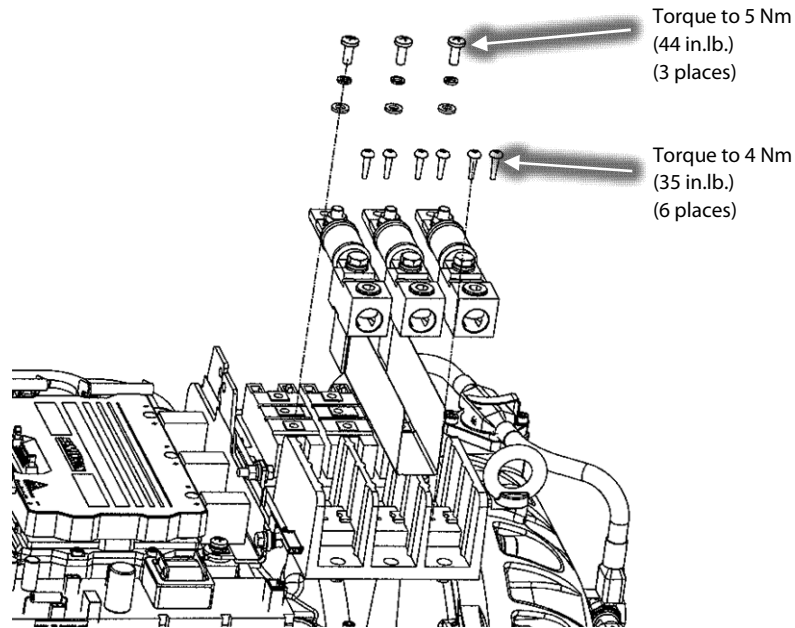

Figure 30 – Fuse Assembly Installation
20. Reinstall the three (3) fuse assemblies to the SCRs and the Mains Input Terminal Block. Torque the fasteners of the fuse assemblies to specification. Refer to Figure 30 (Fuse Assembly Installation).